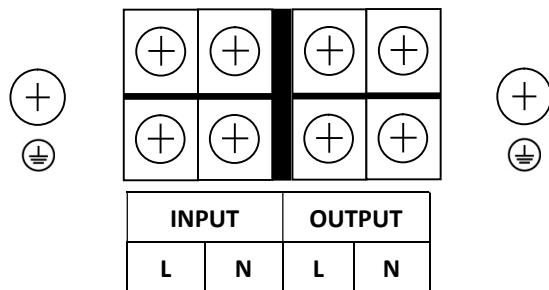

Figure 8 - INPUT/OUTPUT terminals for Single Phase Stabilizer
1.1. Remove the metallic panel that covers the **Input/Output terminals**. The terminals are shown in figure 8. All the cables have to reach the terminals from the rear side using the proper holes in the stabilizer rear side.
1.2. Connect the **AC INPUT line (LINE, NEUTRAL and GROUND)**, paying attention to the right polarity, in accordance with figure 8, as explained below: